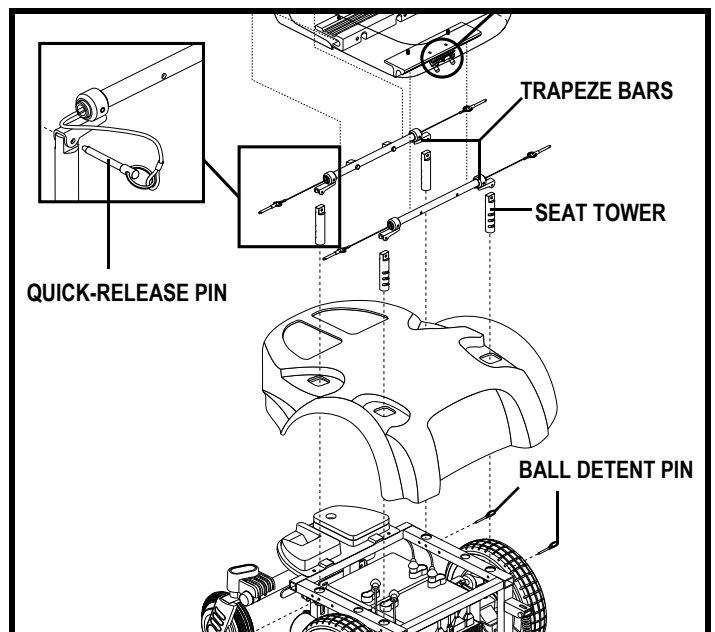

Figure 15. Seat Height Adjustment
6. Remove the quick-release pins from the seat towers (front and rear). See figure 15.
9. Remove the ball detent pin from each of the four seat towers. See figure 15.